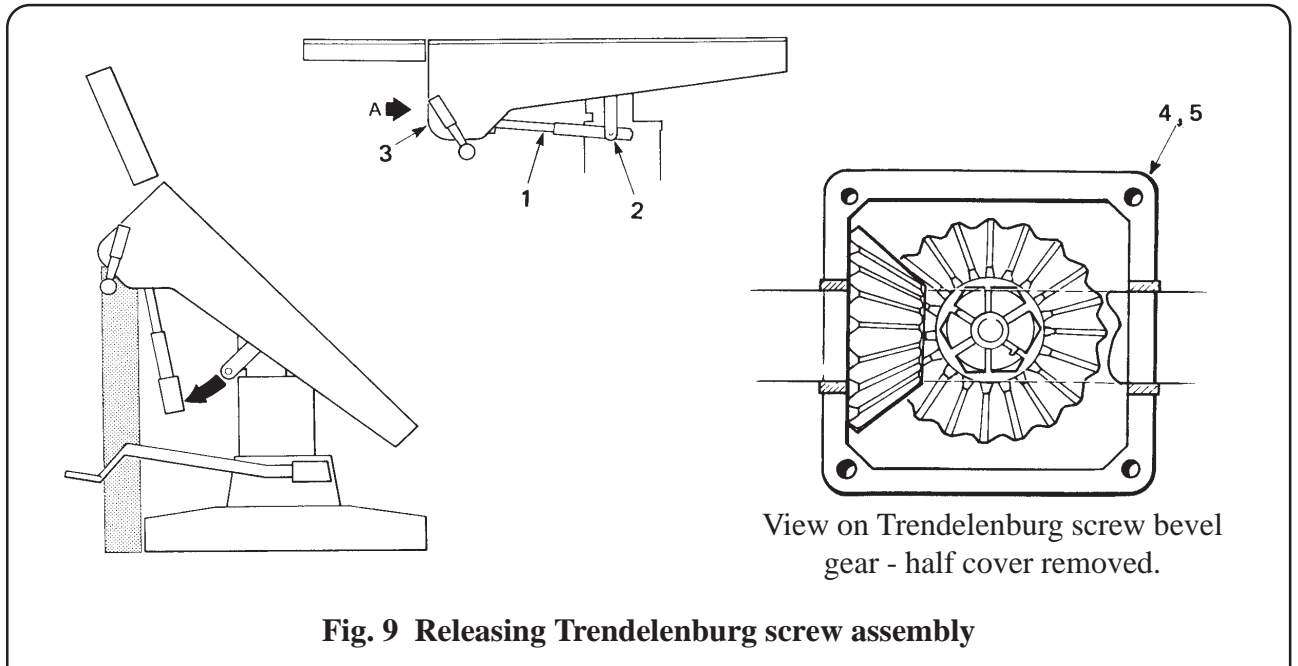

Fig. 9 Releasing Trendelenburg screw assembly
- iii Remove the gearbox cover (3, Fig. 9).
- iv Bolster the table top in position as shown in Fig. 9 and then free the lower end of the Trendelenburg screw assembly (1, Fig. 9) by removing the pivot screws (2, Fig. 9).
- v Pivot the Trendelenburg screw assembly about its bevel gear housing (4, Fig. 9) to gain access, in turn, to the four screws (5, Fig. 9) holding the two halves of the housing together. Remove the four screws to separate the two half housings and remove the Trendelenburg screw assembly, with the bevel gear lower half housing from the table.